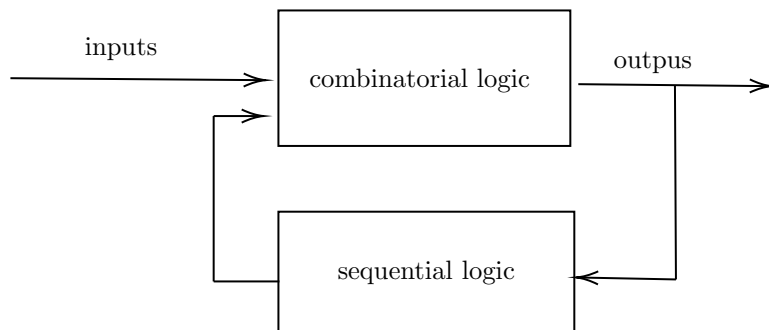
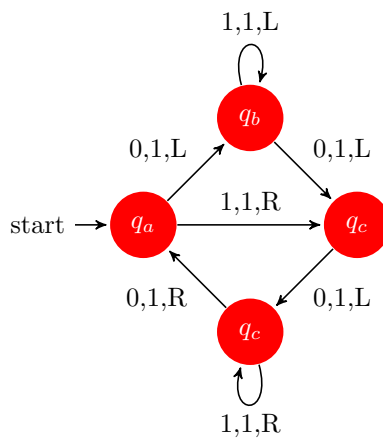

Figure 1: DUT generalization
Figure 2: Moore's Machine example
**Problem Statement** Given a known DUT and given the list of states that the DUT has to reach, we propose to use machine learning for stimulate the DUT in order to reach all states in the shortest possible time. The DUT is an ensemble of sequential and combinatorial logic: we force some binary values in the inputs, the internal registers change their states and the outputs are the results of operations done on the registers values. In figure 1 is shown a generic model of a DUT. Another way for generalizing it is a Moore's Machine (as in figure 2): for a given DUT we can group all sequential logic (called flip-flop or registers) on a single state, and all the combinatorial logic as the functions for moving between states. Note that in our problem we do not focus on the output: we are not trying to predict a certain output but we want to learn how to visit all states of the DUT in the shortest possible time.